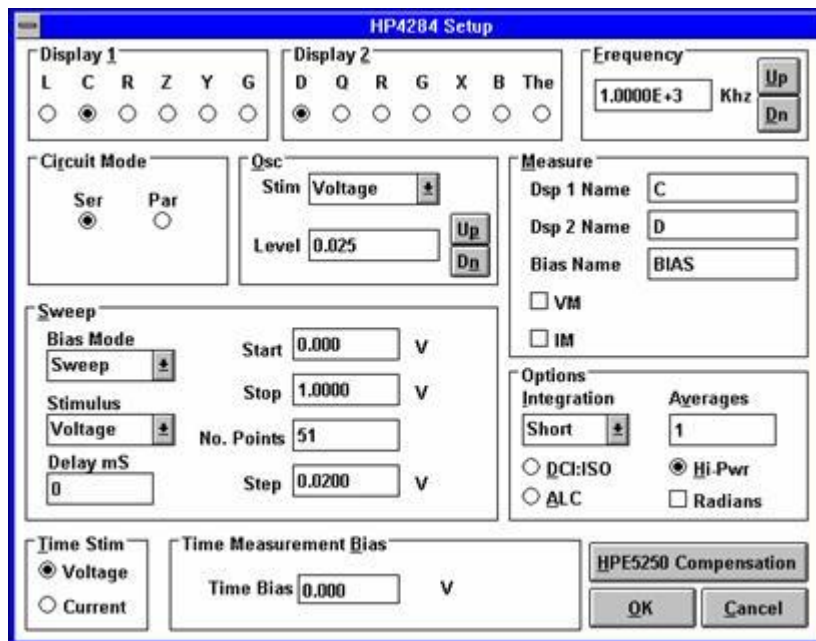

Figure 2: HP4284 Setup Configuration for the C_{ibo} Test Setup
2. Configure the controls as shown in Figure 2. Use the mouse or TAB key to move between the different switches and fields.
5. Designate the independent variable of the plot by double-clicking on the appropriate data vector listed in the Data window. Two quantities were measured in the C_{ibo} test setup: input capacitance and voltage. There should be two data vectors in the dialogue box Data window: "Cibo" and "Vrb" (according to the data vector labels specified in Figure 2). This example will create a plot of input capacitance with respect to the voltage sweep. Since voltage will be the independent variable, double-click on "Vrb". Notice that the X-button is now labeled with a "Vrb".